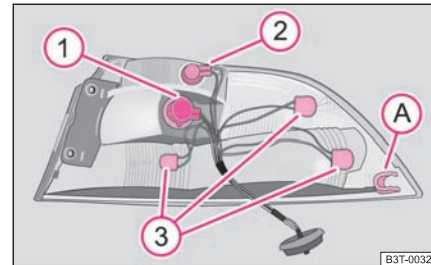

Fig. 224 Outer part of the rear light unit: Lamps
- To re-insert the rear light unit, first of all guide it with the support **A** ⇒ fig. 224 towards the front onto a bolt on the bodywork.
Fitting position of the bulbs in the outer rear light unit ⇒ page 250, fig. 224.